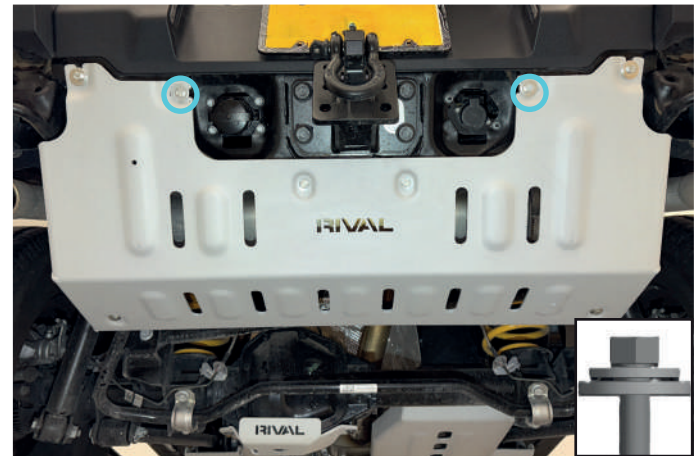

Fig. 4
4. Install hardware to remaining mounting points for the muffer skid plate (item 1) using M8x1x25 bolts, M8 and M10 washers (items A,B,C) as shown in fig.4